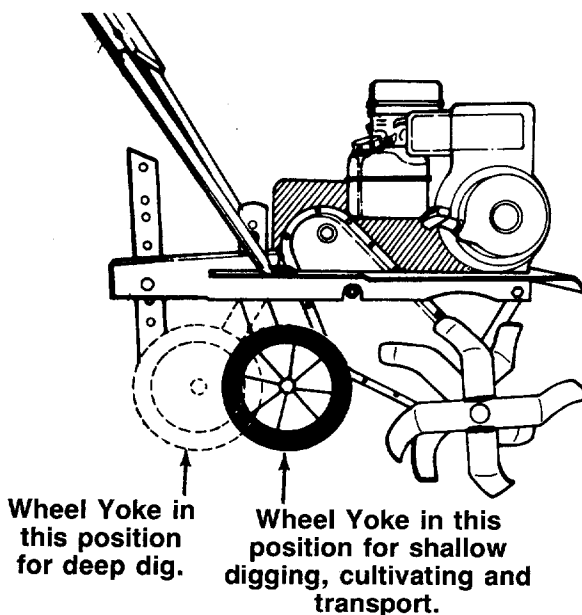

FIGURE 19.
1. **Wheel Yoke Adjustment:** Place wheel yoke so that the wheels are forward (nearest point between wheels and tines) for shallow tilling, cultivating and transport. The forward speed will increase. Turn yoke around (farthest point between wheels and tines) for deep tilling. Forward speed will decrease. See figure 19.